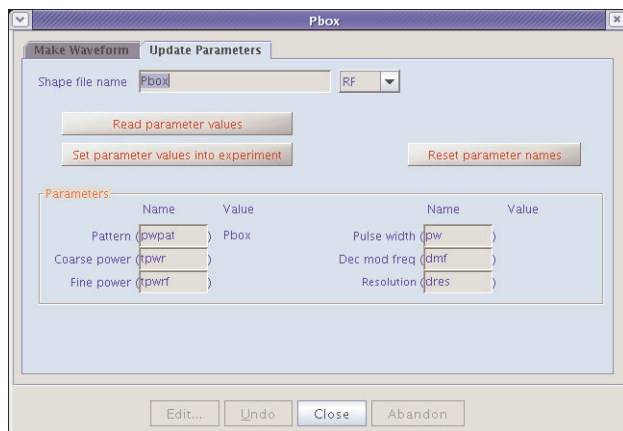

Figure 70. Pbox Update Parameters
- Click the **Update Parameters** tab, see Figure 70.